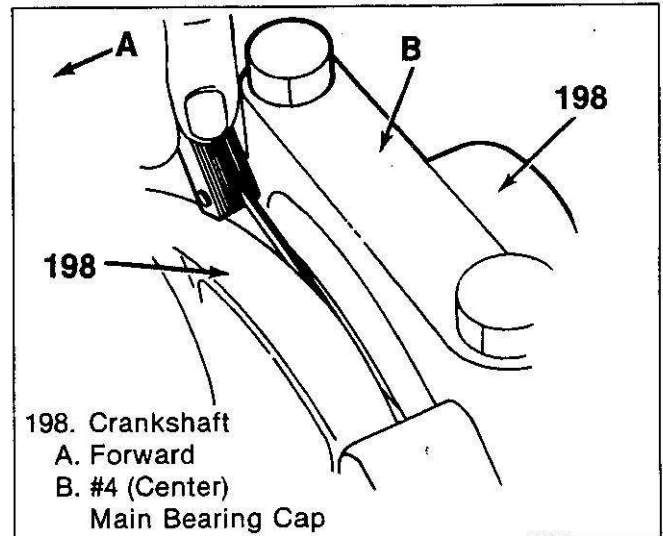
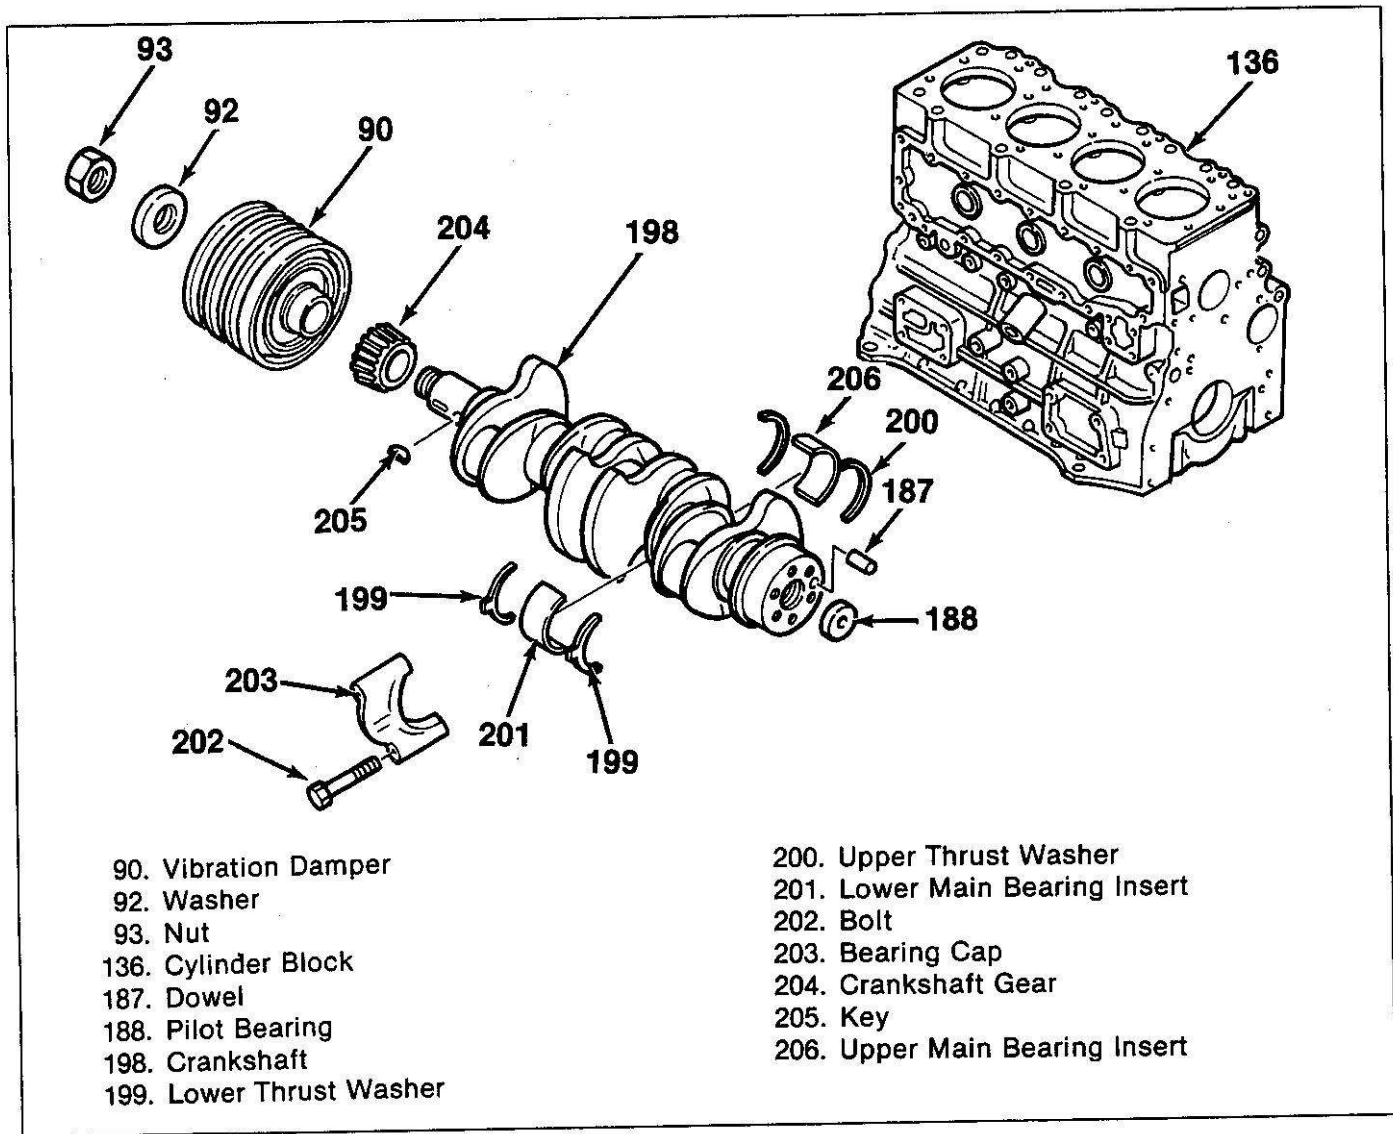
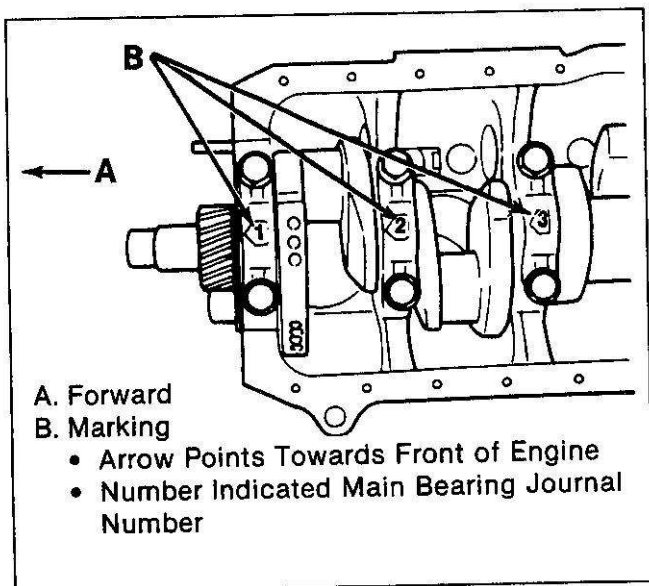
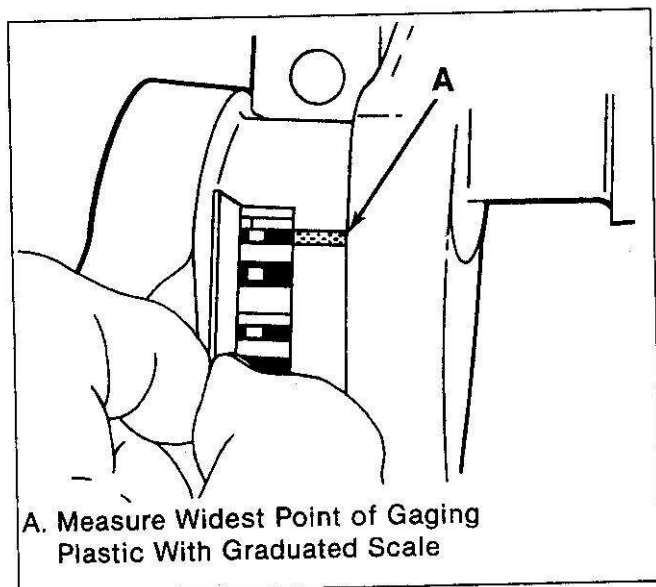

Figure 105. Measuring Crankshaft End Play
Figure 106. Crankshaft and Components
Figure 107. Main Bearing Cap Markings
Figure 118. Measuring the Gaging Plastic
- Crankshaft (198) end, play, using a feeler gage (figure 105).
- Insert the feeler gage between the lower thrust washer half (199) and crankshaft (198), as shown.
- If the end play is more than 0.4 mm (0.016 in), replace the thrust washer halves (199 and 200) (figure 106).
9. Bolts (202).
10. Main bearing caps (203).
- Note the main bearing cap (203) markings (figure 107). The markings are provided so the main bearing caps can be returned to their original positions at assembly.
11. Crankshaft (198) (figure 106).
13. Main bearing inserts (201). If the bearings are to be reused, mark them so they can be returned to their original place at assembly.
Clean (Figure 106)
Inspect (Figure 106)
- Install the main bearing inserts (201 and 206) and main bearing caps (203) to the cylinder block (136). Be sure to put the main bearing caps in their original locations.
- Apply engine oil to the bolt (202) threads (figure 106).
- Install the bolts (202).
(Figures 106, 114 and 115)
Main Bearing Selection (Figures 106, 107 and 111)
- Apply engine oil to the bolt (202) threads and washer (figure 106).
8. Install the bolts (202).
9. Remove the bolts (202).
10. Remove the main bearing caps (203).
- DO NOT REMOVE THE GAGING PLASTIC FROM THE JOURNAL OR LOWER BEARING HALF (203).
**Measure (Figures 106 and 118)**
- The flattened gaging plastic will be found adhering to either the lower bearing insert (201) or journal.
- On the edge of the gaging plastic envelope there is a graduated scale. Without removing the gaging plastic, measure its compressed width (at the widest point) with the graduations on the gaging plastic envelope (figure 118).